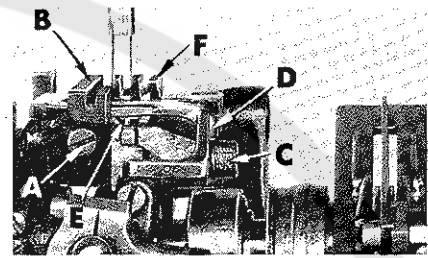
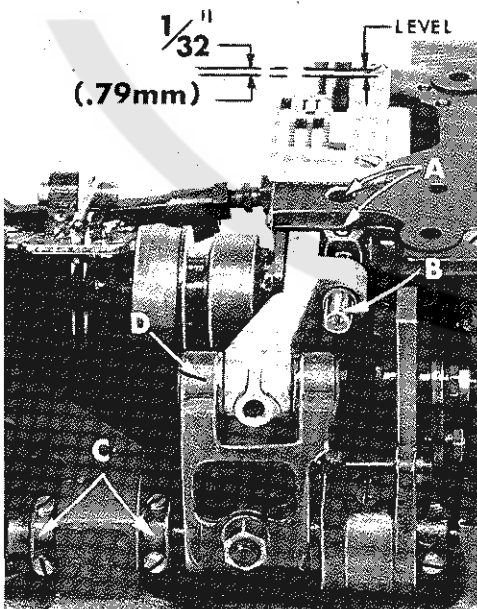
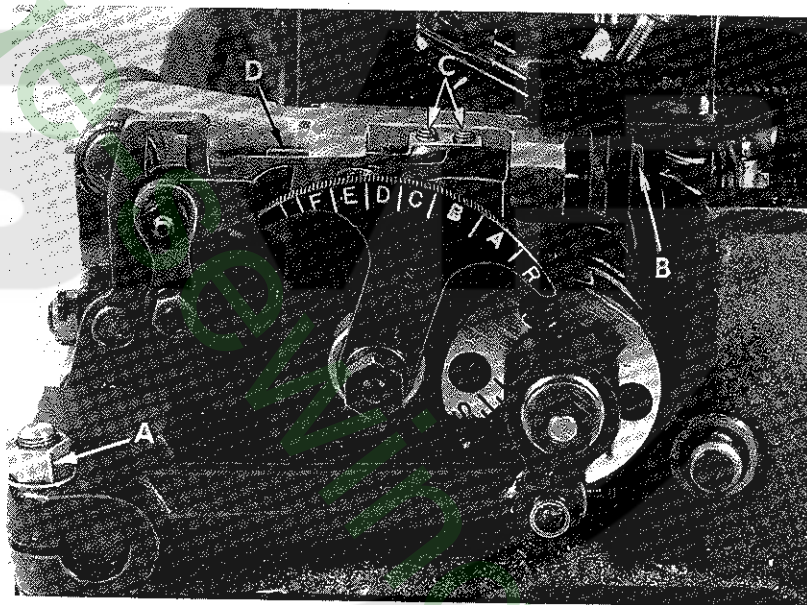

Fig. 9
Fig. 10
Fig. 12
The differential feed dog should be set to rise the depth of a full tooth or approximately $3/64$ inch (1.19 mm) above the throat plate at highest point of travel. Adjustment can be made by loosening screw (A, Fig. 9 or B, Fig. 12), raise or lower feed dog (B, Fig. 9) and retighten screw. At maximum feed travel, the feed dog should clear the forward end of throat plate by $1/32$ inch (.79 mm) Fig. 10; also parallel to the top surface of throat plate and centered in throat plate slot across-the-line-of-feed. Adjustments can be made by loosening set screws (A, Fig. 10 or C, Fig. 12), permitting the differential feed bar (B, Fig. 10 or D, Fig. 12), to be moved forward, backward or rotated as needed to acquire the aforementioned conditions. Under extreme circumstances it may be necessary to shift the complete feed mechanism slightly, to the right or left to meet these conditions. This can be done by loosening collars (C, Fig. 10) and moving feed rocker (D); retighten collars and set screws securely. Make sure the feed rocker arm does not bind after making this adjustment.
To raise or lower main feed dog, loosen Allen screw (C, Fig. 9) allowing feed dog holder (D) to be moved. NOTE: Screw (E) must be set to support the main feed dog (F) when specified height is obtained. Retighten screw (C).
of-feed, loosen nut (A, Fig. 12) and move feed rocker forward or backward as needed, retighten nut.